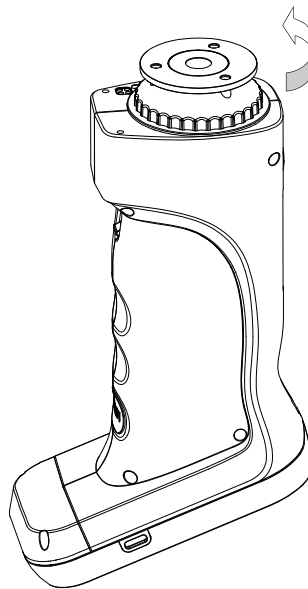

Figure 42 Measurement Aperture Uninstall
Step 1: As shown in Figure 42, counterclockwise rotates the measurement aperture, and take off it, then install the new aperture clockwise. When you hear "DA", it means that the measuring aperture and the integrating sphere button position are well matched, then the measuring aperture is installed well